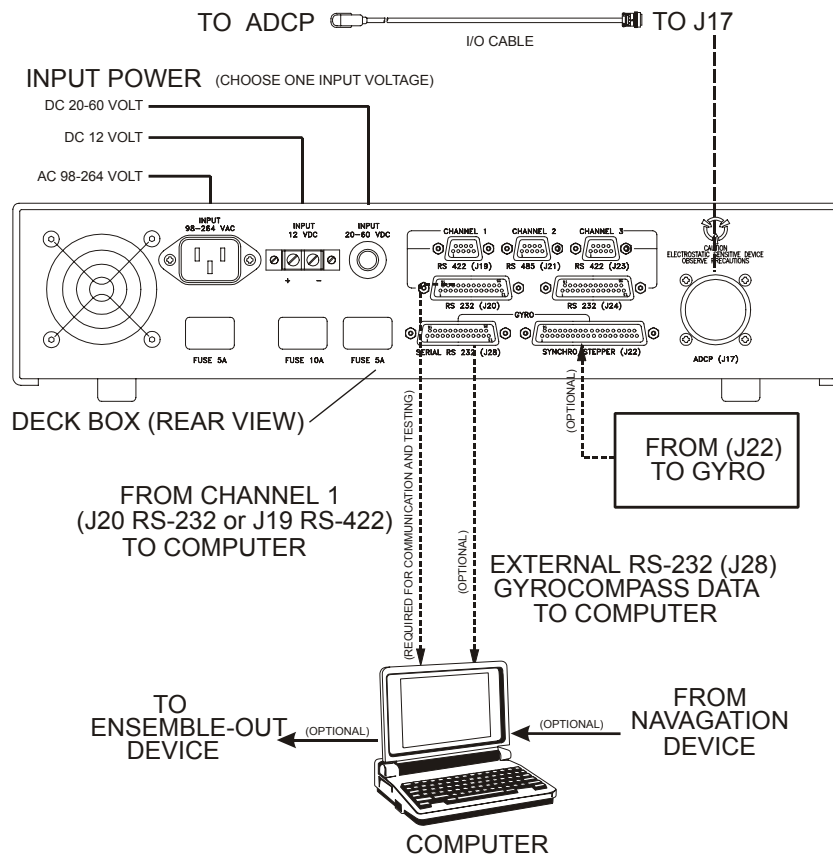

Figure 9. WorkHorse Mariner Connections
Figure 9 illustrates how to connect the WorkHorse Mariner cables on your workbench. You will need a container of water large enough to submerge the WorkHorse's transducer head into during testing (two to three inches of water is sufficient). Testing the WorkHorse out of water may cause some tests to fail but causes no harm to the WorkHorse.
- a. Interconnect and apply power to the system as described in the Figure 9, page 13.